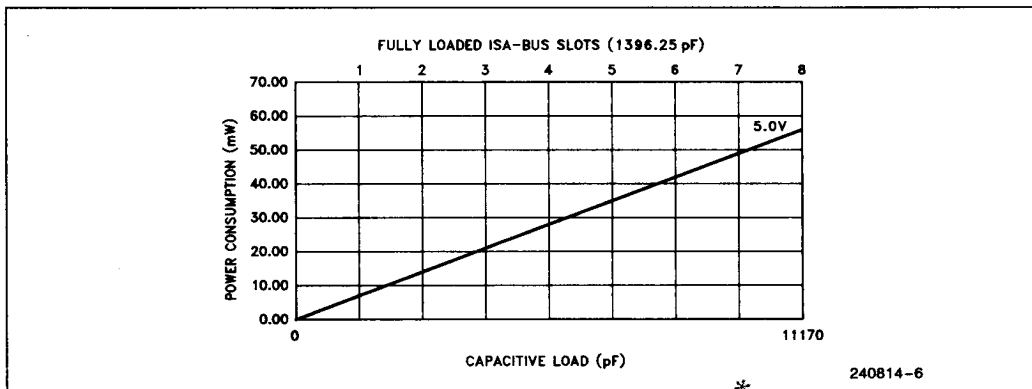
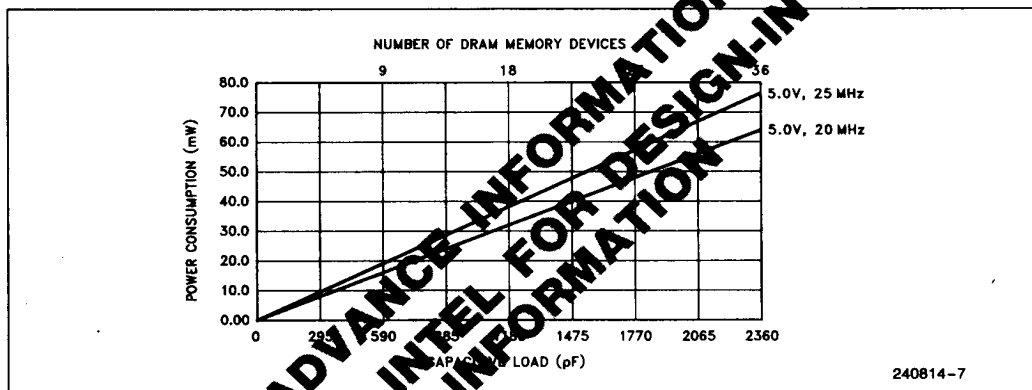
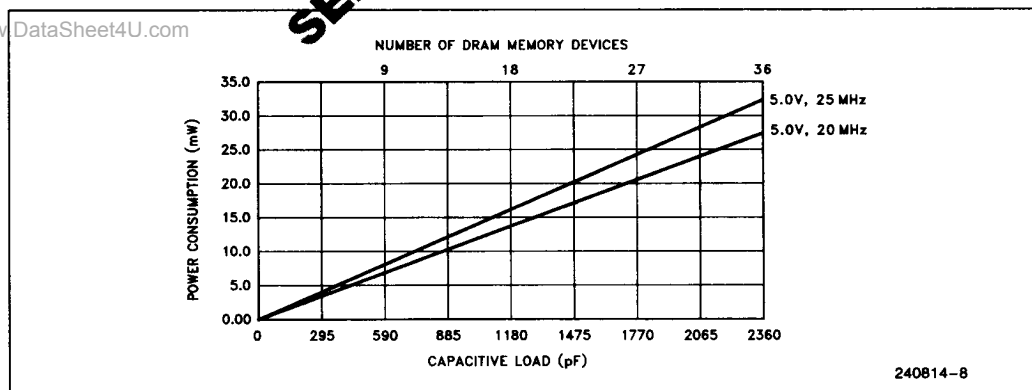

Figure 2.3. ISA Bus
Figure 2.4a. Memory Bus without Cache
Figure 2.4b. Memory Bus with Cache
Figure 2.3 illustrates the power consumption in milli-Watts with respect to the capacitive loading on the ISA bus signals of the Intel386 SL CPU. A set of two curves with V_{CC} at 5V and CPUCLK frequencies at 20 and 25 MHz are plotted in Figure 2.4a. This set of curves is provided for the memory bus without a cache subsystem in Figure 2.4a. The power consumption with respect to load capacitance for the memory bus with a cache subsystem is illustrated in Figure 2.4b. To find the Power (P in milliWatts) of the Intel386 SL CPU for the configuration of your system, use the following method.
2. From the curves in Figure 2.3, use the voltage of your system and the total capacitive load of all of the Intel386 SL CPU ISA signals to find the power consumed by the ISA-bus interface.
3. If a cache is connected to the Intel386 SL CPU in your system, use Figure 2.4b to find memory bus power. If cache is not connected, use Figure 2.4a.
From Figure 2.3, the power consumed by the ISA expansion bus interface is found to be 15 mW (the total capacitance of all the pins of a fully loaded AT-bus slot is 1396.25 pF). For a system with no cache, the power consumed by the memory bus for 8 chips is about 15 mW from Figure 2.4a. The internal power at 20 MHz is 1220 mW from Table 2.3-5. The power consumed by Intel386 SL CPU is the sum of the power for the internal power (ISA bus and CPU core) and memory bus. The total power consumed by the Intel386 SL CPU for this system is 1250 mW.
For a system with cache, the ISA bus interface power is 15 mW as previously determined. The memory bus interface power is determined from Figure 2.4b is found to be 8 mW. The internal power remains 1220 mW. The cache bus power is read off from Table 2.3-6 to be 30 mW and the cache internal power from Table 2.3-7 is 170 mW. Hence, in this system, the Intel386 SL CPU consumes a total of 1443 mW.